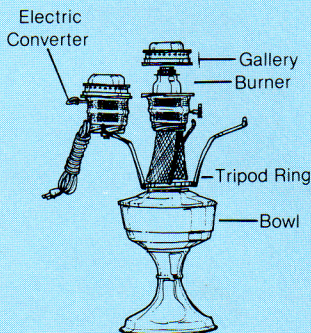

Fig. 1
2. IF YOUR LAMP IS EQUIPPED WITH A SHADE AND TRIPOD (SHADE HOLDER). PLEASE NOTE THAT TRIPOD ATTACHES TO LAMP BETWEEN BURNER AND BOWL. (Fig. 1)